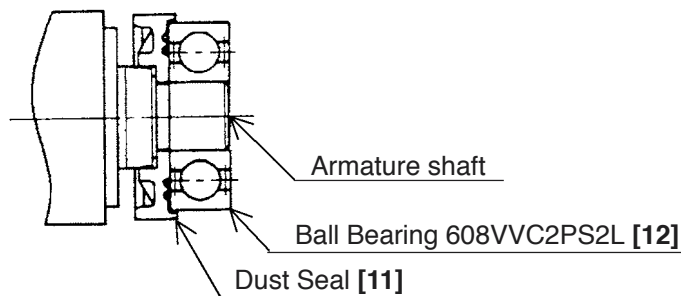

Fig. 1
- (1) Ensure that the terminals of the stator are not bent or otherwise damaged.
- (2) Generously lubricate the teeth of the gear and the pinion with grease. Rub grease onto the teeth with your fingers so that the grease reaches each tooth bottom. Note that the gear and the pinion may wear faster than normal if under-lubricated.
- (3) Be sure to soak the inner diameter of the Felt Packing [19] with machine oil. Otherwise, its dust-sealing function will fail to work properly, resulting in earlier damage of the Ball Bearing 6201VVCMP2L [18].
- (4) When replacing the Armature [7] and the Ball Bearing 608VVC2PS2L [12] on the commutator side, press inward on the Dust Seal [11] while taking care of its direction until the end face of the Dust Seal [11] contacts against the end surface of the Armature [7] and make sure that Dust Seal [11] cannot be turned freely by hand. (See Fig. 1).